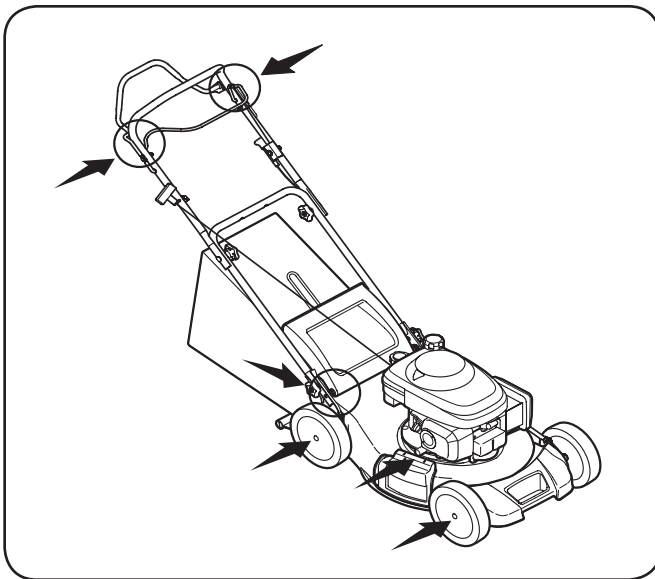

Figure 6-1
1. Lubricate pivot points on the blade control at least once a season with light oil. The blade control must operate freely in both directions. See Fig. 6-1.
2. Lubricate the wheels at least once a season with light oil (or motor oil). If wheels are removed for any reason, lubricate surface of the pivot arm and inner surface of the wheel with light oil. See Fig. 6-1.
3. Lubricate the torsion spring and pivot point on the rear discharge door and side mulch plug periodically with light oil to prevent rust. See Fig. 6-1.